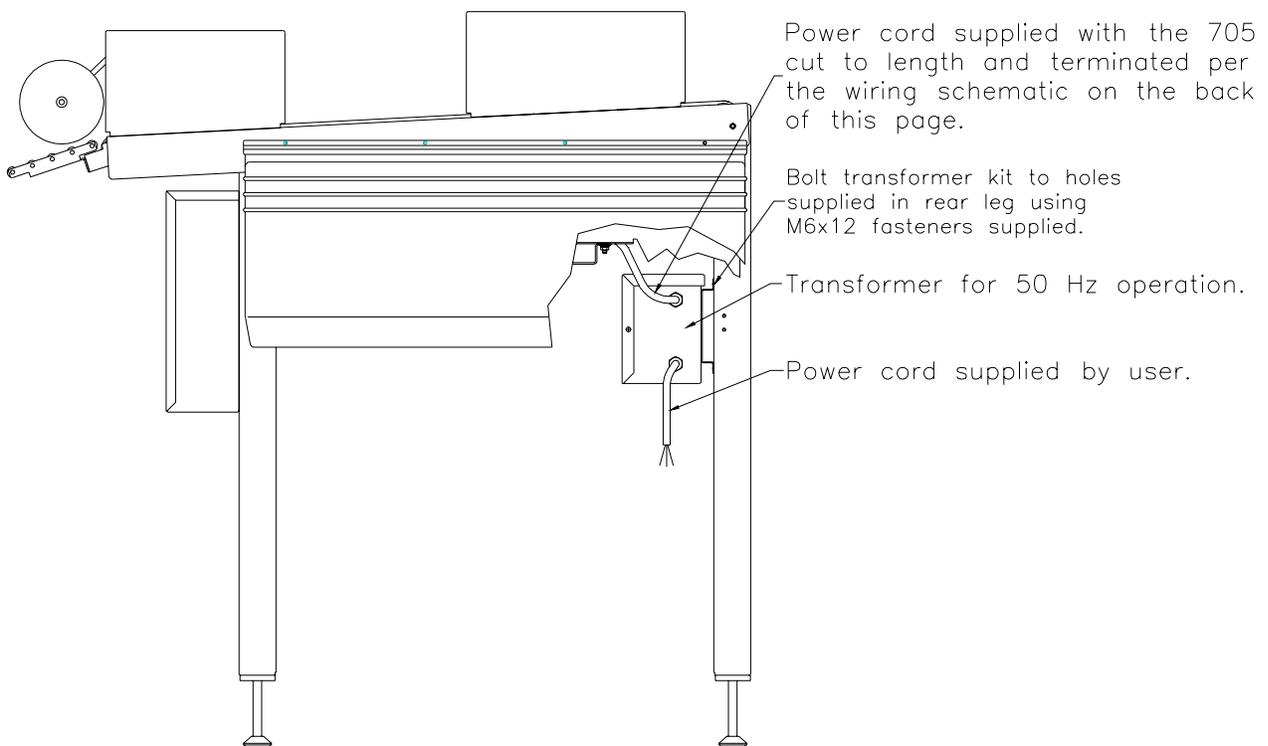

Figure 4-7: 50 Hz Transformer Mounting
- Bolt the transformer to existing holes in the rear leg of the Model 705 Labeler using the M6x12 fasteners supplied (See Figure 4-7).